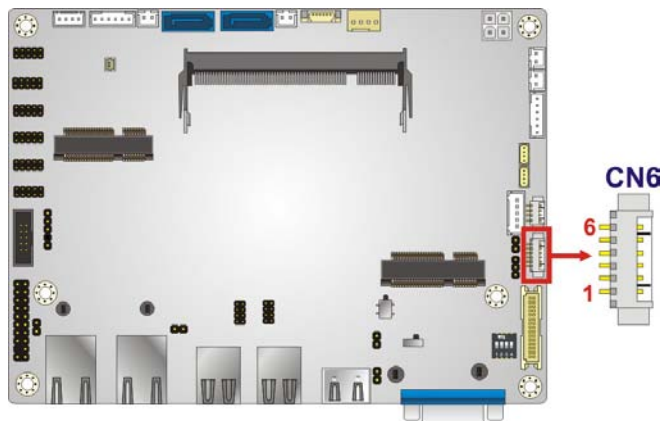

Figure 3-5: Brightness Button Connector Location
- CN Location: See **Figure 3-5**